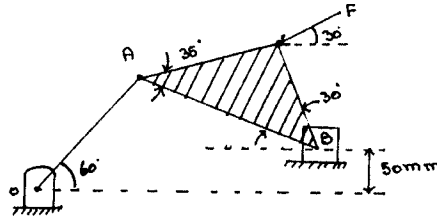

Fig. Q1 (b)
- b. For the mechanism shown in Fig. Q1 (b), find the required input torque for the static equilibrium. The length of OA and AB are 250 mm and 650 mm respectively. $F = 500$ N. (10 Marks)